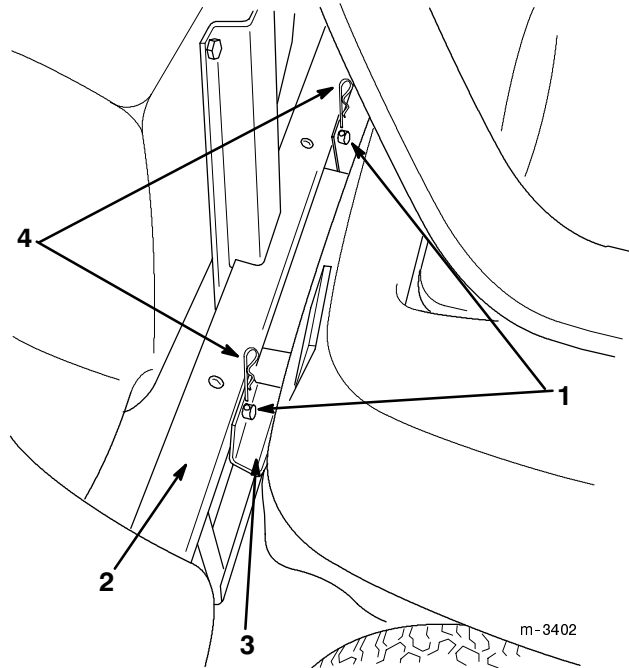

Figure 6
2. Rotate the grass catcher up so that the pins on the mounting frame slide through the holes in the upper mounting bracket on the tractor. Secure the pins with the hairpin cotters (Fig. 6).